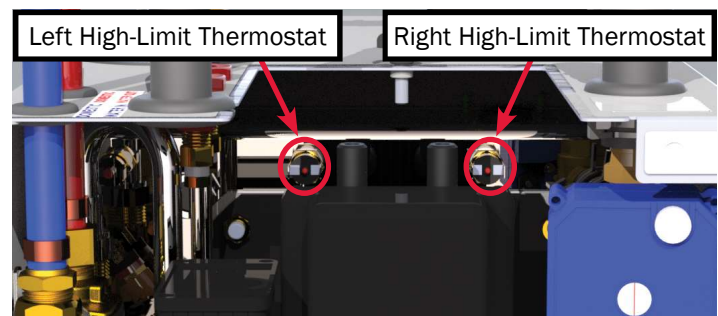

Figure 23
1. Locate the high-limit thermostats (see Figure 23).